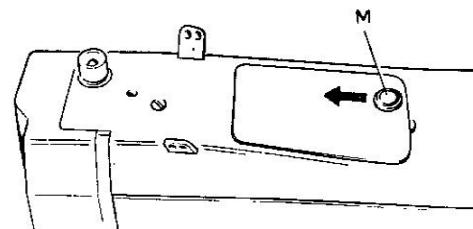

Fig. 49
- Move button « M » (Fig. 49) toward the left, that is in the direction of the arrow.
- Move button « M » (fig. 49) toward the left.